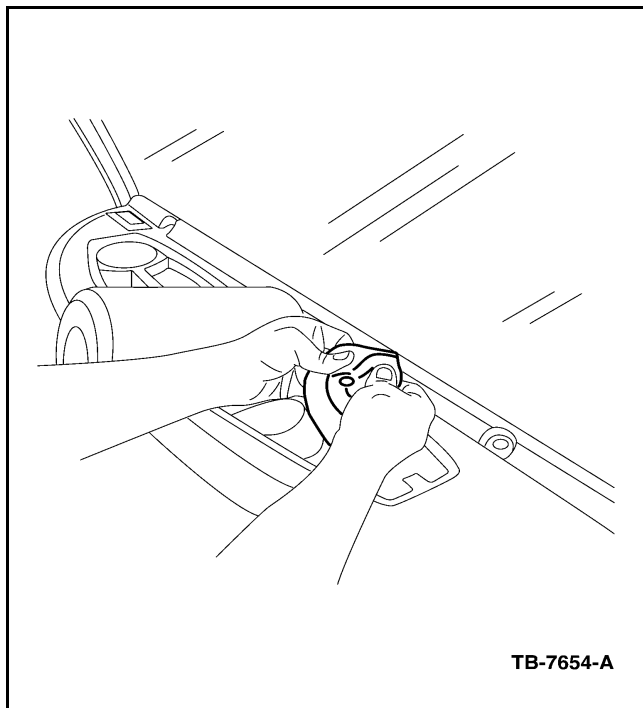

Figure 4 - Article 03-18-4
8. With the splash shield inserted into the cup holder hole, unroll it. The adhesive strip should be facing forward, with the locator hole in the upper driver's side corner (Figure 4).